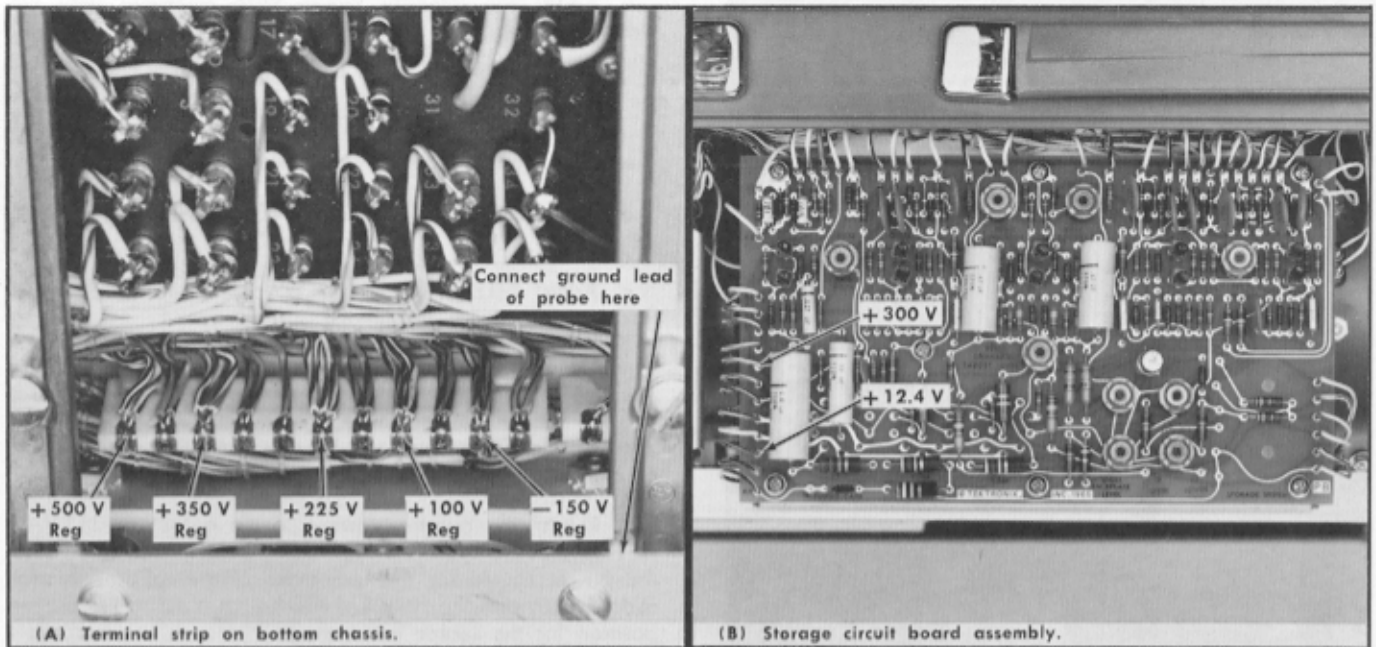

Fig. 6-4. Low Voltage power supply test point locations.
- b. Connect the DC voltmeter between each low voltage check-point and chassis ground to check regulation and connect the 1X probe from the test oscilloscope to each point to check ripple. See Fig. 6-4.